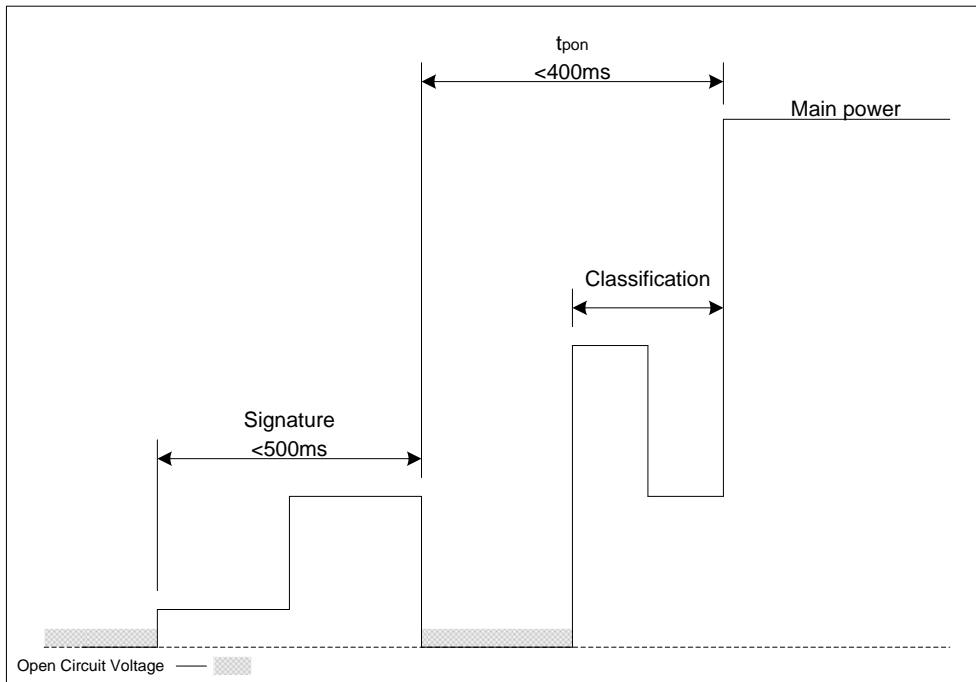
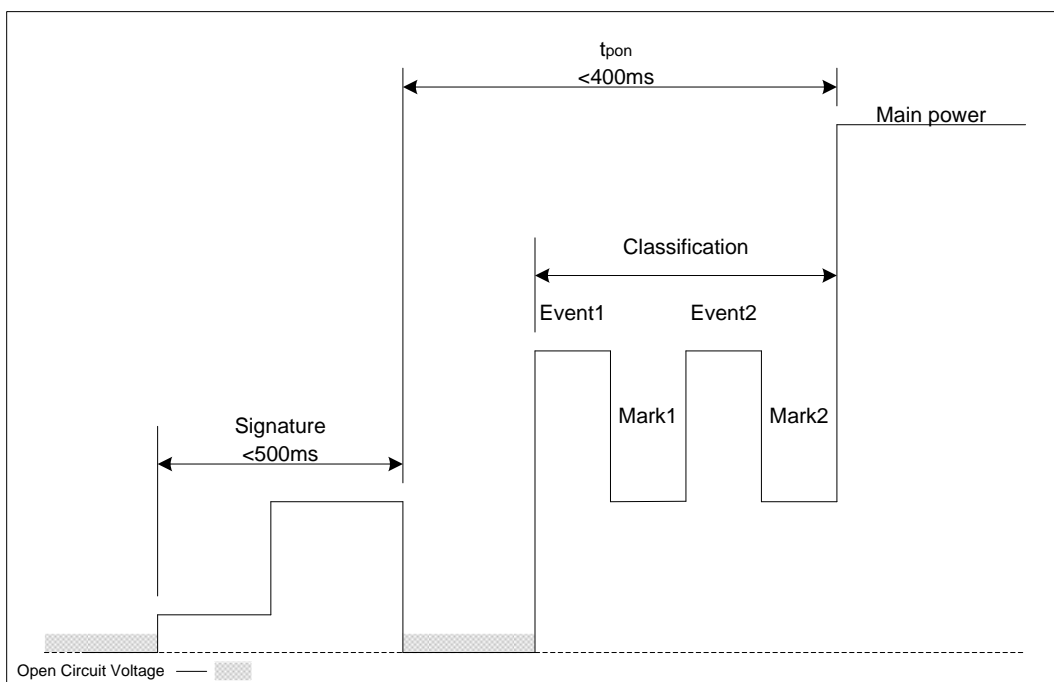

Figure 5: Signature, Class and Turn-On Timing - Type 1 PD
Figure 6: Signature, Class and Turn-On Timing - Type 2 PD
The Ag6110 will automatically perform the Signature and Classification, Figure 5 shows the timing sequence for a Type 1 Powered Device (PD) and Figure 6 shows the timing sequence for a Type 2 PD.